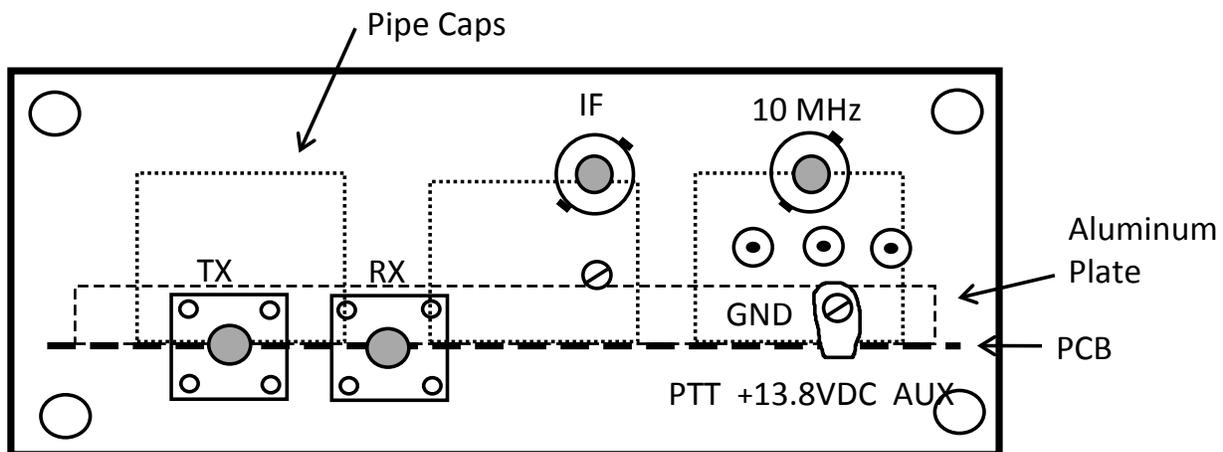

Figure 7.
14. Refer to Figure 7 and install the rear panel to the PCB by first prepping the SMA connectors so that the Teflon will not interfere with the circuit board. Do not use the SMA that was installed on the LO test point. Use the rear panel as a guide and trim the excess Teflon from the SMA's with a sharp knife. Cut the pins to 0.100" extending from the Teflon. Attach the SMA connectors to the panel with the #3-48 x 3/16" screws (4 total). Then attach the panel to the PCB with the 5, 3-48 x 3/8" screws. Note where the ground lug is mounted. Look for any gaps or bulges between the pallet and the panel. If needed, disassemble and re-cut the Teflon on the SMA's or trim the circuit board. This "perfect mating surface" is required for the RF grounding of the SMA connectors to the pallet. Be sure of a proper interface of connector, panel and pallet. Install the BNC connectors and 3 DC feed-thru connectors in the end panel. Common IF configuration shown below.